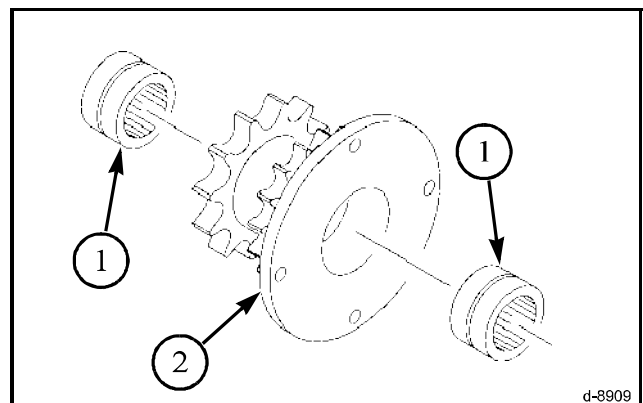

FIG. 22
FIG. 22: The needle bearings (1) in the drive sprocket assembly (2) can be replaced if necessary. Press out the old bearings. Install the new bearings with the seals to the outside.